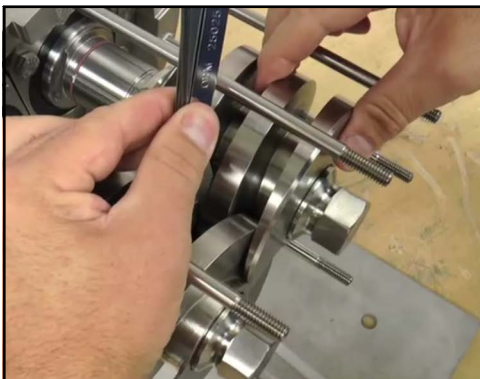

Figure 235 - Rotate screw
10. Insert the feeler gauge selected in step 9 between the screw flanks. Holding the left screw in place, rotate the right screw counter-clockwise until it securely traps the feeler gauge between the screw flanks. This balances the flank-to-flank clearances as shown in Figure 235.